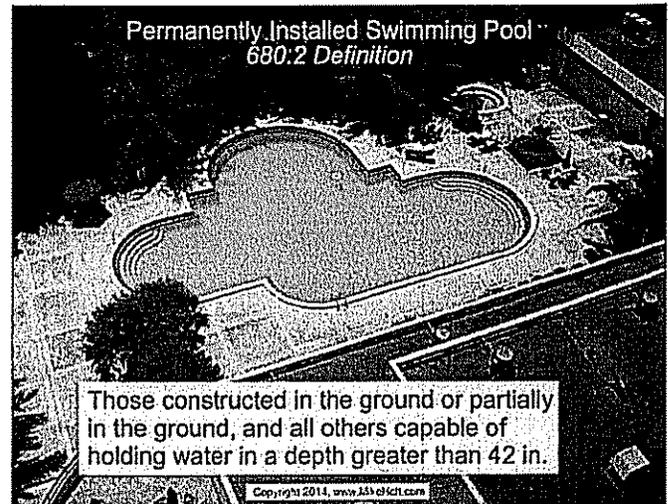

Figure 680-6
**Permanently Installed Swimming, Wading, Immersion, and Therapeutic Pools.** Those constructed in the ground or partially in the ground, and all others capable of holding water in a depth greater than 42 in., and pools installed inside of a building, regardless of water depth, whether or not served by electrical circuits of any nature. Figure 680-6